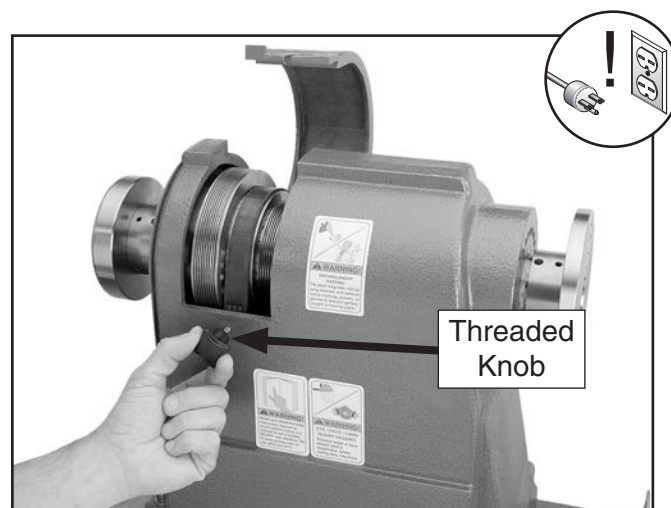

Figure 24. Belt access panel removed.
2. Remove the threaded knob and open the upper belt access panel, as shown in **Figure 24**.